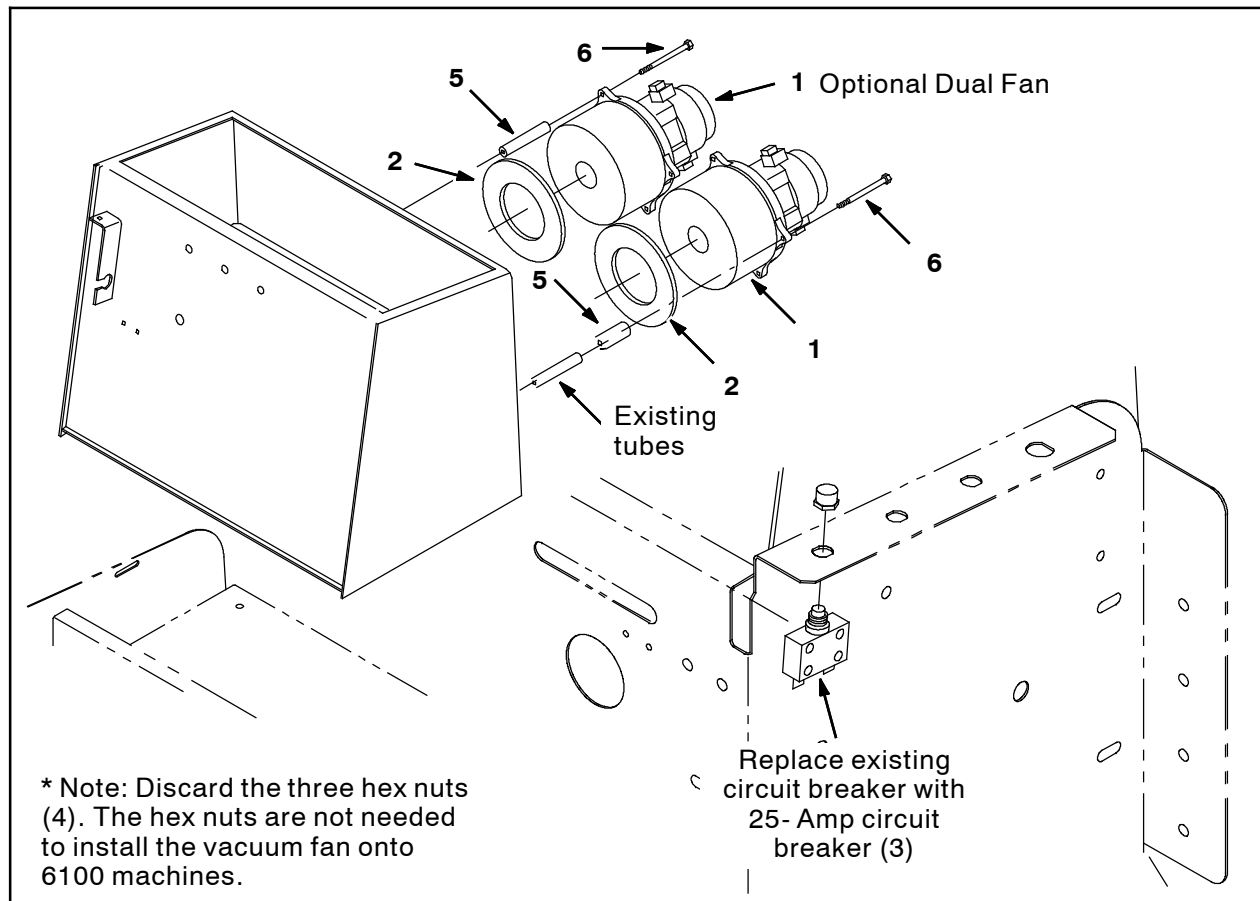

FIG. 4
1. Install the seal (2) onto the vacuum fan (1). (Fig. 4)
2. Use three hex screws (6), three tubes (5), and the three existing tubes to install the new vacuum fan (1) onto the machine. Discard the three hex nuts (4). (Fig. 4)
3. Remove the existing circuit breaker from the electrical panel. (Fig. 4)
4. Install the 25 Amp circuit breaker into electrical panel. (Fig. 4)